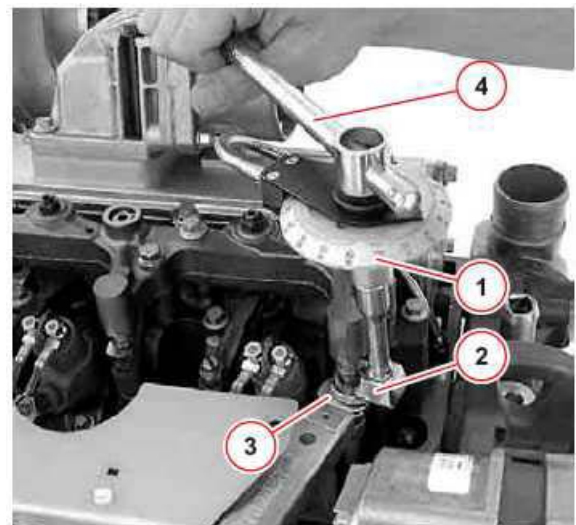

Fig. A5
- Loosen locknut (3) on rocker arm and support setting screw (2) with T-handle against turning (figure A5).
- Put T-handle on torque angle gauge (Fig. A5).